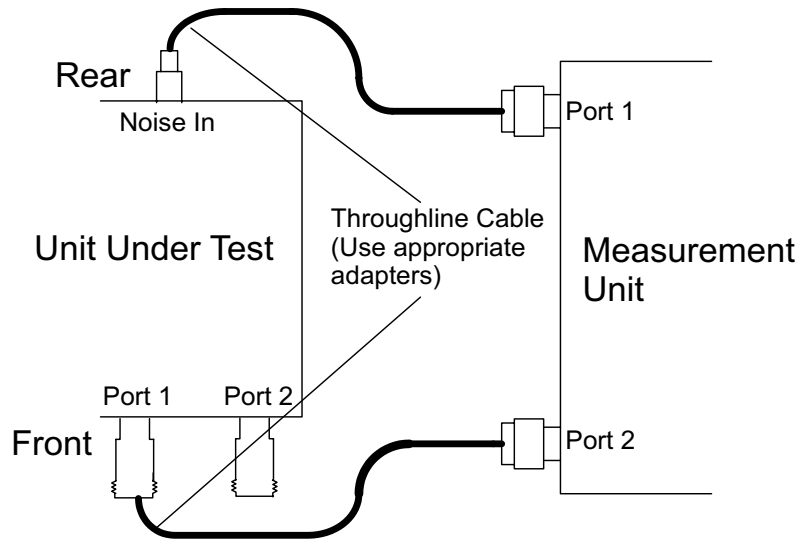

Figure 5-6. Throughline Cables
2. Attach the throughline to both Port 1 and Port 2 of the Measurement unit (Figure 5-6).